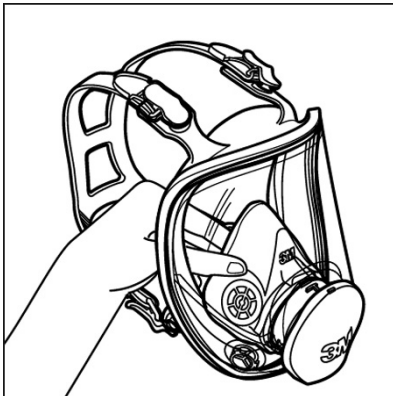
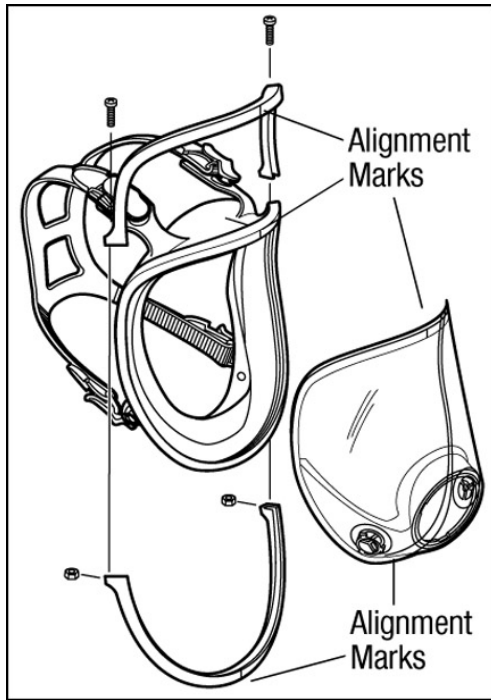

Fig. 11
Fig. 18
1. Remove nose cup assembly by pulling away from center adapter inside facepiece. (Fig. 11)
1. Remove the nose cup assembly by pulling away from center adapter inside facepiece. (Fig. 11)
1. Remove nose cup assembly from inside facepiece. (Fig. 11)
3. Remove the (2) Phillips screws from the lens/facepiece frame. Pull the frame top and frame bottom away from facepiece.
5. Place new lens and facepiece together aligning marks at top and bottom. Position top and bottom frame, again aligning marks top and bottom. Install and securely tighten screws. Make certain alignment marks are properly aligned top and bottom with all components. (Fig. 18)
7. Replace nose cup assembly. (Fig. 11)
2. Position bottom frame, aligning center vertical mark, and press in place. (Fig. 18)